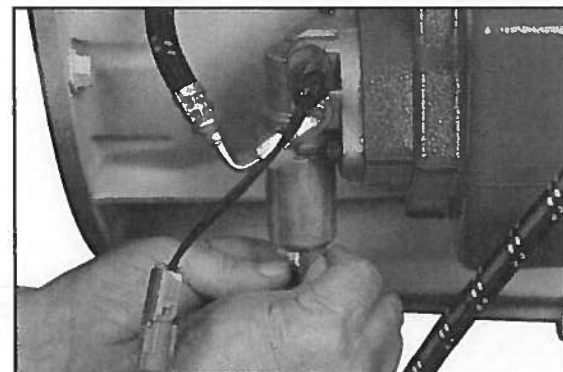

Fig. 21
12. Complete the assembly by installing the electrical connection to the valve assembly (Fig. 21) and the pressure switch (379502) (Fig. 22). Not available for the 287 Series Installations.